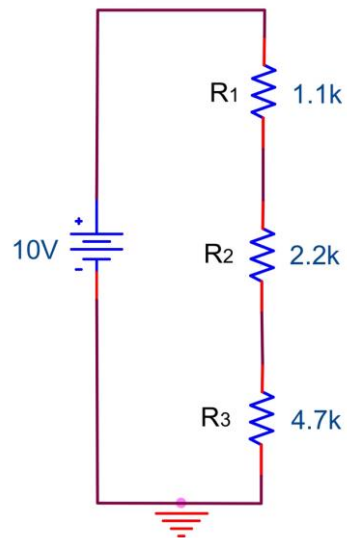

Figure 5.10
1. Construct Figure 5.10. Measure and record R_1 , R_2 , and R_3 .